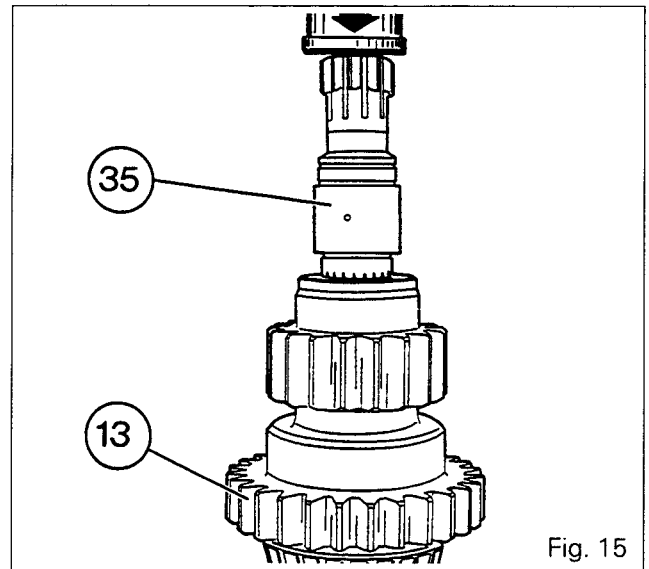

Fig. 15
101. Separate the pinion (13) from the shaft (35) with the aid of a press and a suitable tool (Fig. 15).
**Note: The friction ring (30) is force-fitted in the shaft (35).**